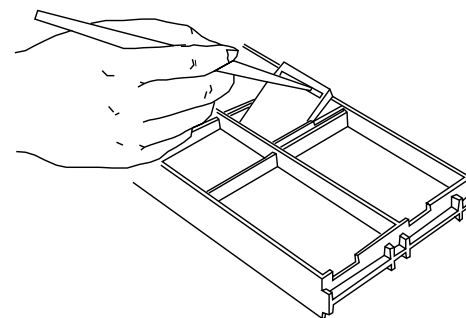

Figure 2: Use the spatula to lower the cover onto the gel tray containing polyacrylamide gel solution.
- Orient the gel tray cover so that the slot is at the top of the gel. Place the bottom end of the cover in the gel tray. Use the casting spatula to gently lower the cover onto the tray with capillary action as shown in Figure 2.
- 3A. Use the spatula provided to slowly lower the cover at an angle onto the gel solution as shown in Figure 2, page 4.